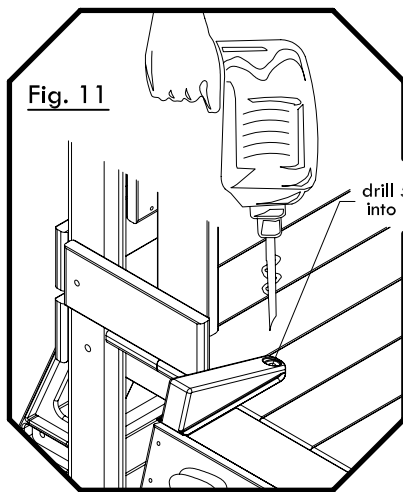

Fig. 11
Step 5: Using a drill with a 5/16" bit, drill attachment holes in the fort floor by using the Rockwall Brackets as a guide. (See Fig. 11)